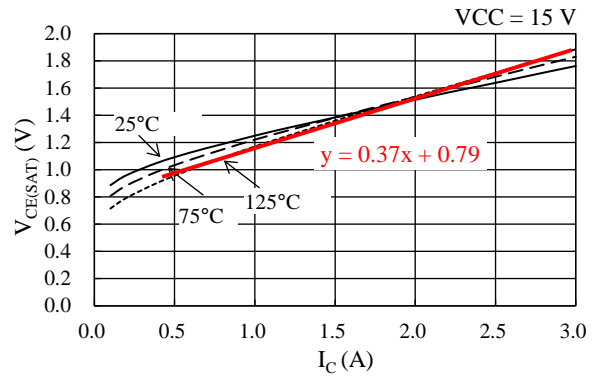

Figure 13-1. Linear Approximate Equation of $V_{CE(SAT)}$ vs. I_C Curve
Steady-state loss in an IGBT can be computed by using the $V_{CE(SAT)}$ vs. I_C curves, listed in Section 14.3.1. As expressed by the curves in Figure 13-1, linear approximations at a range the I_C is actually used are obtained by: $V_{CE(SAT)} = \alpha \times I_C + \beta$. The values gained by the above calculation are then applied as parameters in Equation (5), below. Hence, the equation to obtain the IGBT steady-state loss, P_{ON} , is: